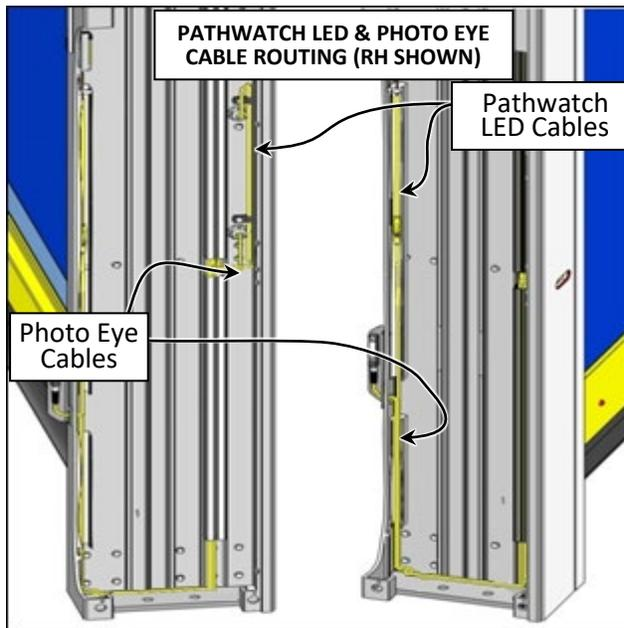
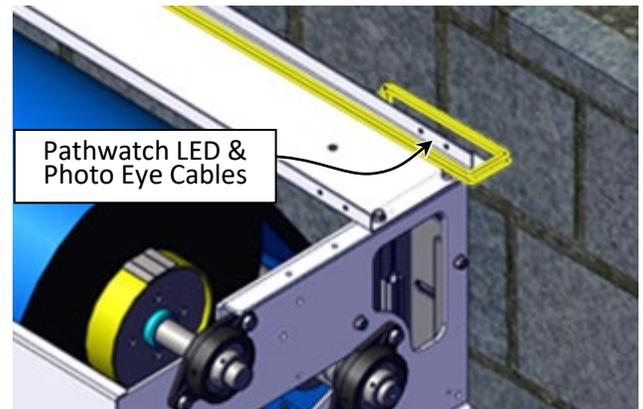

Figure 37
Figure 38
2. After the side columns and head assembly have been assembled and mounted to the wall, confirm the front Pathwatch LED Warning light cables/wires are routed as shown in Figure 20, Figure 37, and Figure 38:
- a. Through the wire chase on the inside front of the side column and down to the bottom. (See Figure 37)
- b. Flat across the side column bottom back to the rear of the side column. Make sure the cables counterweight or crush plate. (See Figure 37)
- d. Up through the gap between the head assembly rear spreader and the wall. (See Figure 38)
2. After the side columns and head assembly have been assembled and mounted to the wall, confirm the rear Pathwatch LED Warning light cables/wires are routed as shown in Figure 20, Figure 37, and Figure 38:
- a. Up the side column rear wire chase through the grommet and inside wire chase slot. (See Figure 20 and Figure 37)
- b. Through the gap between the head assembly rear spreader and the wall and to the junction box. (See Figure 38)
3. Secure cables/wires with plastic ties to the rear spreader of the head assembly. (See Figure 38)
2. Confirm the front cable/wires are routed as shown in Figure 20, Figure 37, and Figure 38:
- a. From the photo eye back into the side column, down the front side wire chase of the side column to the bottom. (See Figure 37)
- b. Flat across the bottom of the side column back to the rear side column. Make sure the cables are flat on the bottom and don't interfere w/ the counterweight or crush plate. (See Figure 37)
- d. Through the gap between the head assembly rear spreader and the wall to the rear junction box. (See Figure 38)
2. Confirm the rear cable/wires are routed as shown in Figure 20, Figure 37, and Figure 38:
- a. Up the side column rear wire chase through the grommet and inside wire chase slot. (See Figure 20, and Figure 37)
- b. Through the gap between the head assembly rear spreader and the wall to the rear junction box. (See Figure 38)
3. Secure cable with plastic ties to the rear spreader of the head assembly. (See Figure 38)